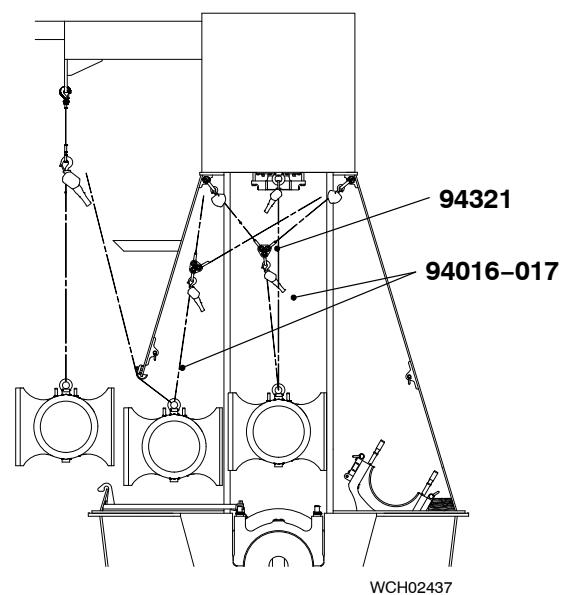

Fig. 8
- 3) Attach the two manual ratchets (94016-017, Fig. 8) to the eye bolt on the guide shoe.
- 6) Move the guide shoe (1) through the door frame as follows:
- b) Lower the guide shoe (1) on to an applicable wooden underlay.